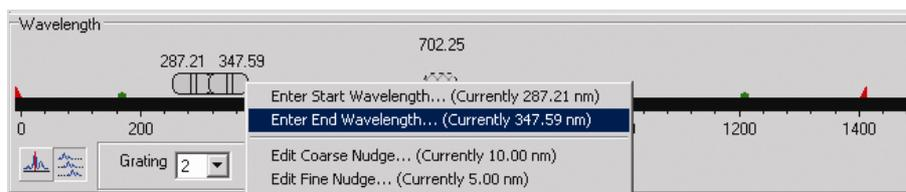

Figure 11: Direct input of Start and End wavelengths
2. Right-click, then manually input the start and end wavelength (see **figure 11** below)